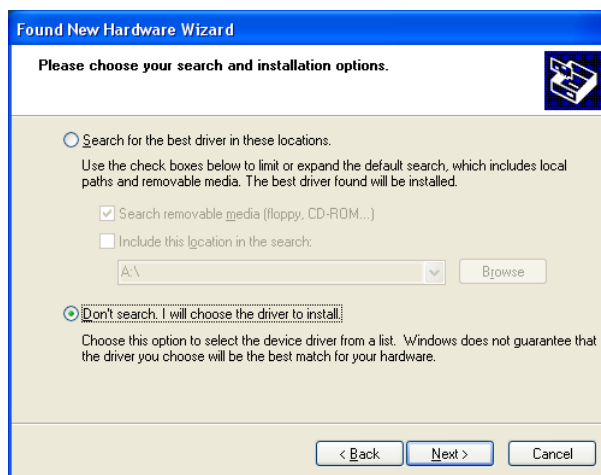

Fig. 2-2 Choose search and installation option
- 2) Select “Install form a list of specific location (Advanced)”, click [Next] to continue. A dialog box as Fig. 2-2 will pop up.